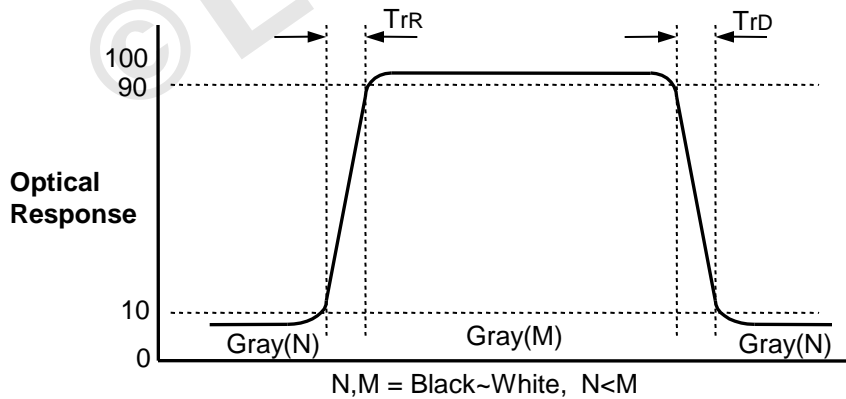

FIG. 3 Response Time
- Response time is the time required for the display to transit from G(N) to G(M) (Rise Time,  $Tr_R$ ) and from G(M) to G(N) (Decay Time,  $Tr_D$ ). For additional information see the FIG. 3.(N<M)